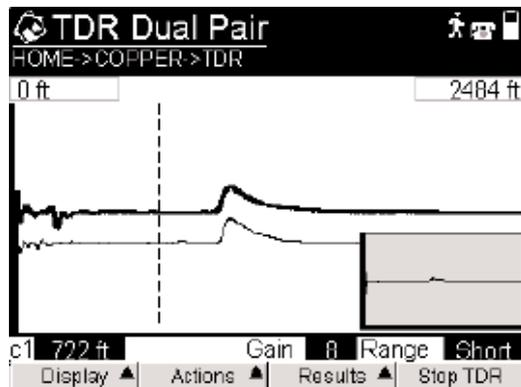

Figure 3 Dual TDR mode
- Connect the blue and yellow leads to the second pair. The trace for the second pair will be a thin line. (See Figure 3.)